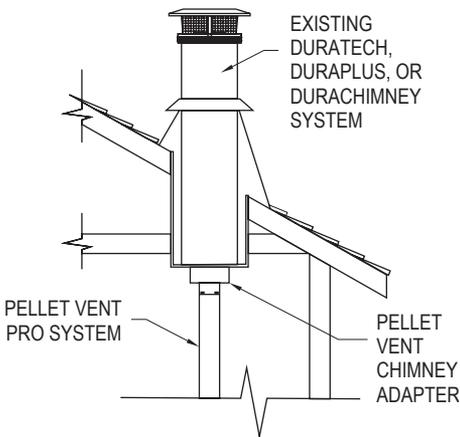

Figure 7
6. If it is desired to attach to an existing 6", 7" or 8" DuraTech, DuraPlus or DuraPlus HTC chimney, either roof supported, or ceiling supported: **(Figure 7).**
C. Install a DVL/DuraBlack Chimney Adapter - product stock numbers (6") 8674, (7") 8774, or (8") 8874 - in the existing ceiling support box, as shown in **Figure 7**. Note that the DVL/DuraBlack Chimney Adapter only connects to Simpson Dura-Vent chimney systems.
E. Connect the appliance to the Chimney Adapter using an Appliance Adapter, lengths of pipe as required, and an Adjustable Length pipe. Slide the Adjustable Length down over the top pipe section, position the installation vertically plumb, then slip the Adjustable Length up and twist lock it to the Chimney Adapter. Once all the components are firmly seated and properly aligned, carefully drill three 1/8" diameter holes through the outer sleeve only in the center of the slots located at the bottom of the Adjustable Length pipe. Do not penetrate the inner liner. Use (3) 1/4" length sheet metal screws to secure the Adjustable Length pipe. The completed installation will look like **Figure 7**.